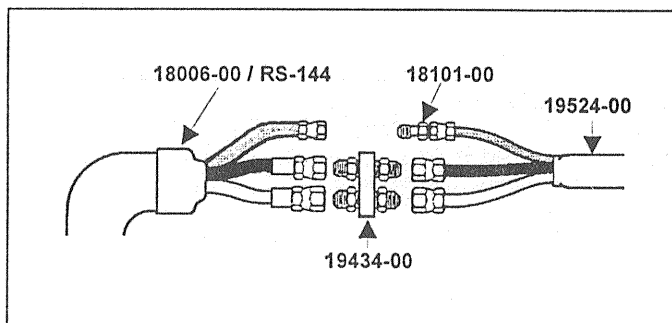

Fig. 1
1. Connect Whip Hose, P/N 18006-00 to Hose assembly, P/N 19524-00 using Hose Union assembly, P/N 19434-00 and Air Line Fitting, P/N 18101-01. (see Fig. 1)
8. Remove mixing module from needle. Clean side ports with .011-inch drill. (see fig. 1)
9. Push down on seal housing (23722-00 Round) (23723-00 Flat) to expose holes. Clean side ports with .025-inch drill. (See fig 1)